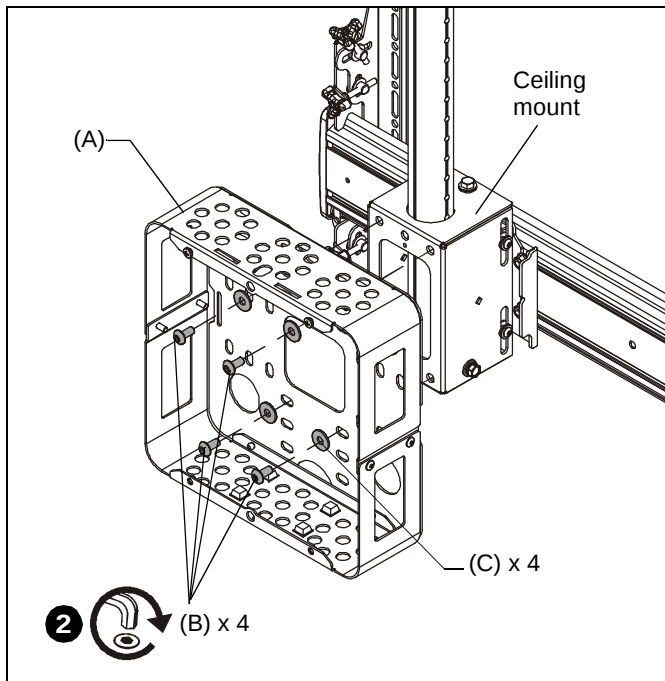

Figure 8
2. Attach FCA510/FCA515 (A) to back of ceiling mount using four 5/16-18 x 1/2" button head screws (B) and four 5/16" flat washers (C) installed into back of ceiling mount. (See Figure 8)